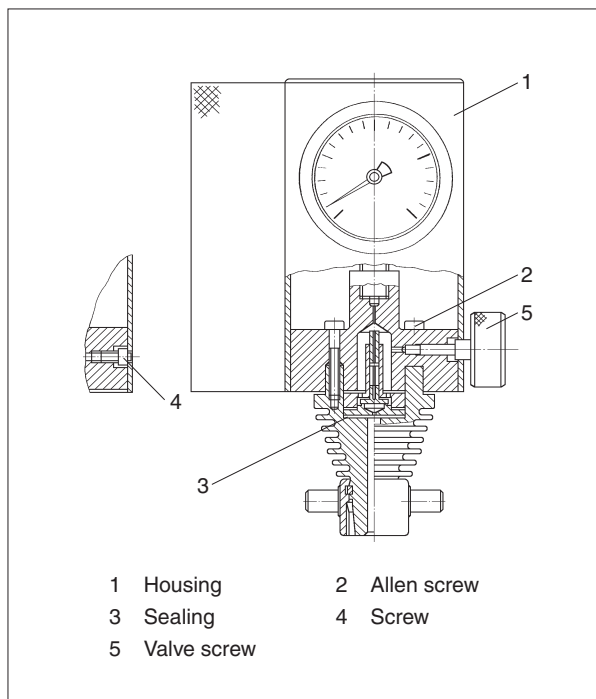

Fig 1 Pressure Indicator.
- 4) Close the indicator valve and open the valve screw (5), fig 1.
- 5) Disconnect the max pressure indicator and close the valve screw (5), fig 1.
- 1) Dismount the valve screw (5), fig 1.
- 2) Turn the screw (4) into the instrument to enable dismantling of the housing (1).